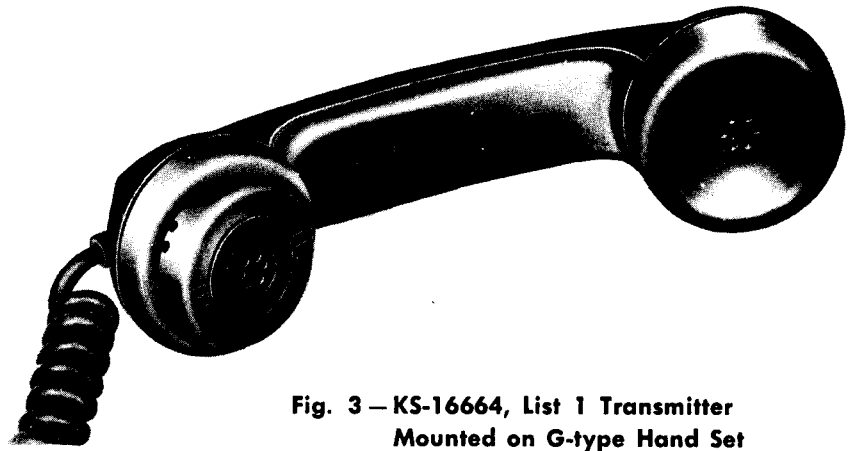

Fig. 3 — KS-16664, List 1 Transmitter Mounted on G-type Hand Set
5.03 The KS-16664, List 1 transmitter is designed to fit G-type hand set (see Fig. 3). To install KS-16664, List 1 transmitter: